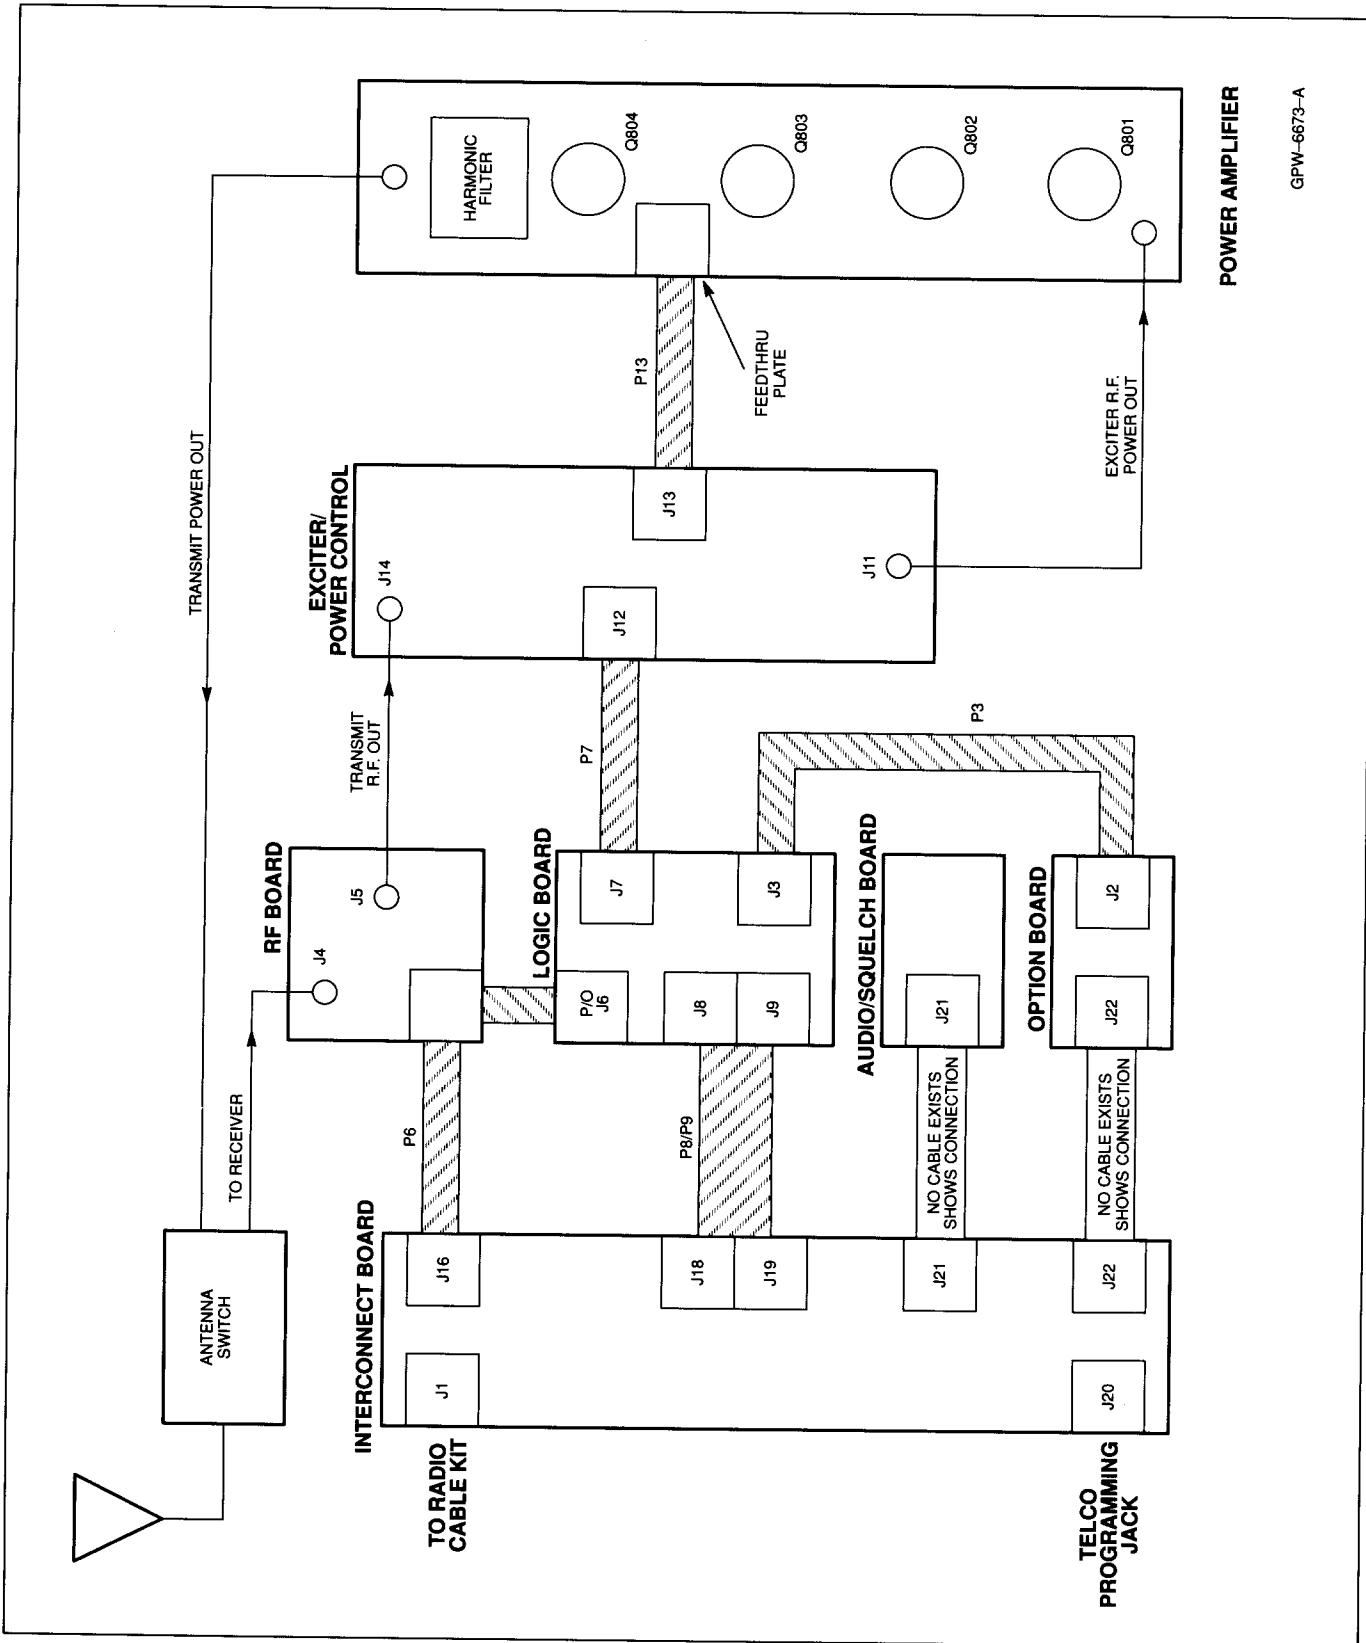

Figure 1. VHF Radio Block Diagram
3.2 FUNCTIONAL DESCRIPTION (SEE FIGURE 1)